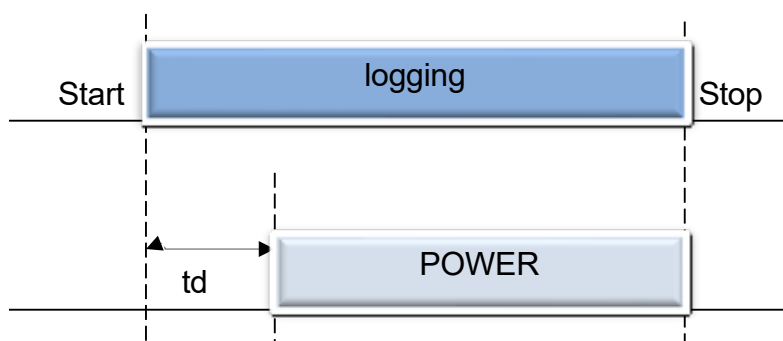

FIGURE 5.3: DELAYED POWER SUPPLY
- Start with a delay linked to the measurement process. The delay time is 100 measurement samples but no more than 100ms—refer to Figure 5.3.